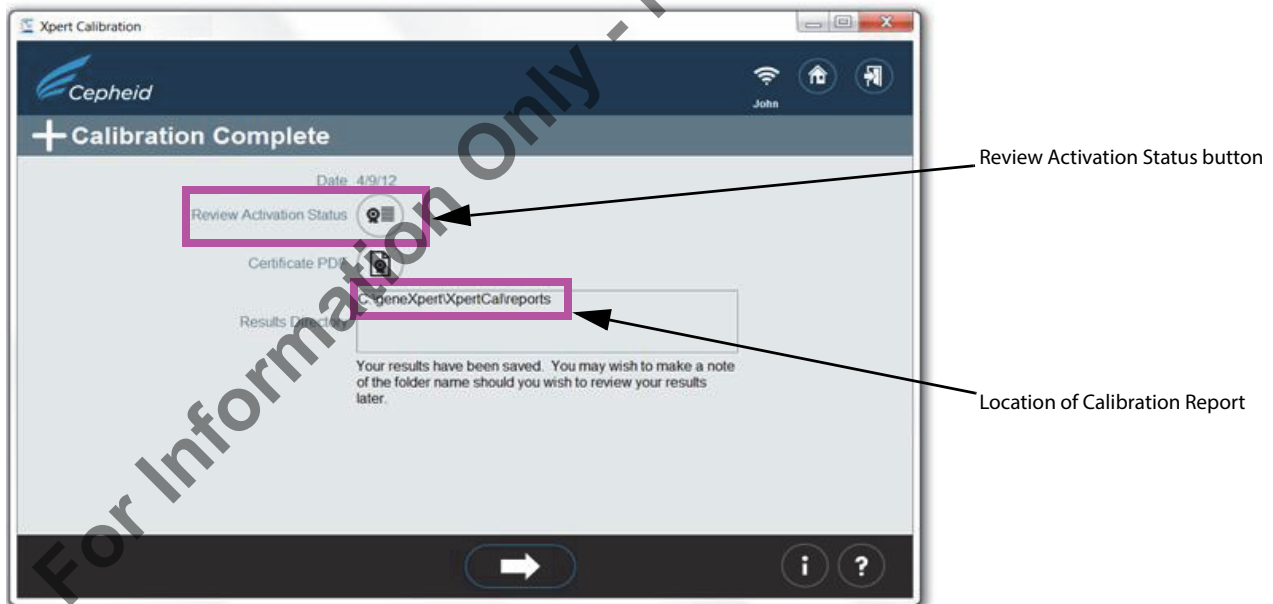

Figure 45. Calibration Complete Screen
- e. After the activation code has been applied, the **Calibration Complete** screen will appear with the location of the Calibration Report displayed in the **Results Directory** area. Write down the file path and location of the Calibration Report file, as shown. See Figure 45.
- f. Click the **Review Activation Status** button (see Figure 45).